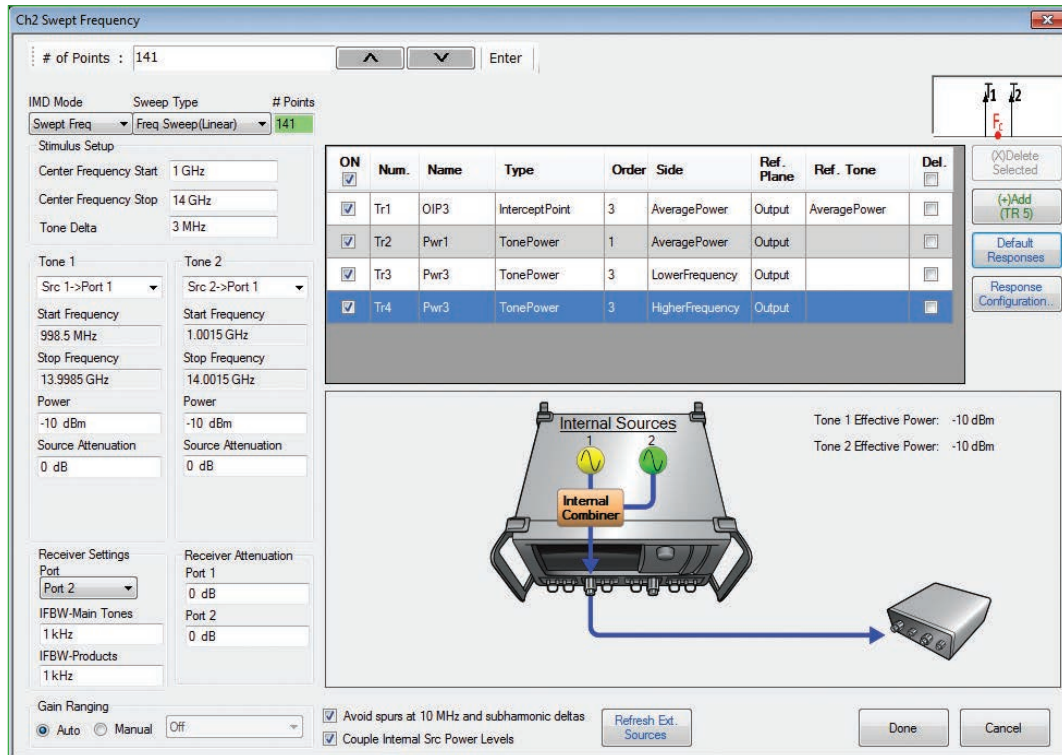

Figure 11: Channel 2 Swept Frequency IMD Measurement Configuration
4. Setup for a Swept Frequency IMD Measurement as shown in Figure 11.